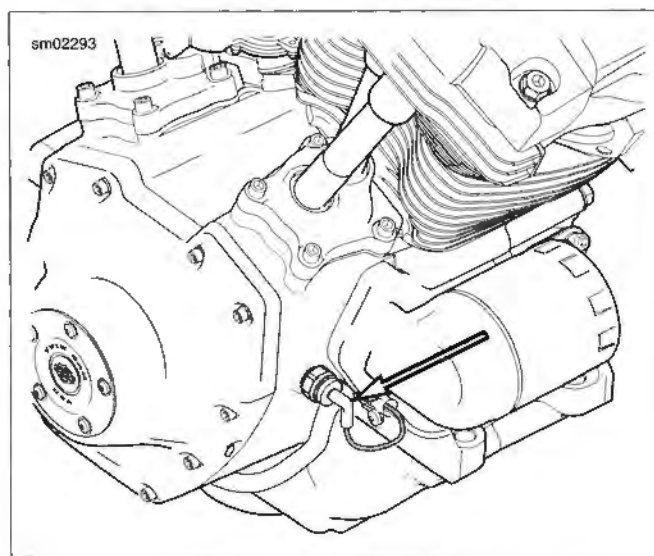

Figure 3-13. Oil Pressure Switch
2. See Figure 3-13. Remove oil pressure switch from crankcase. See 7.32 OIL PRESSURE SWITCH.